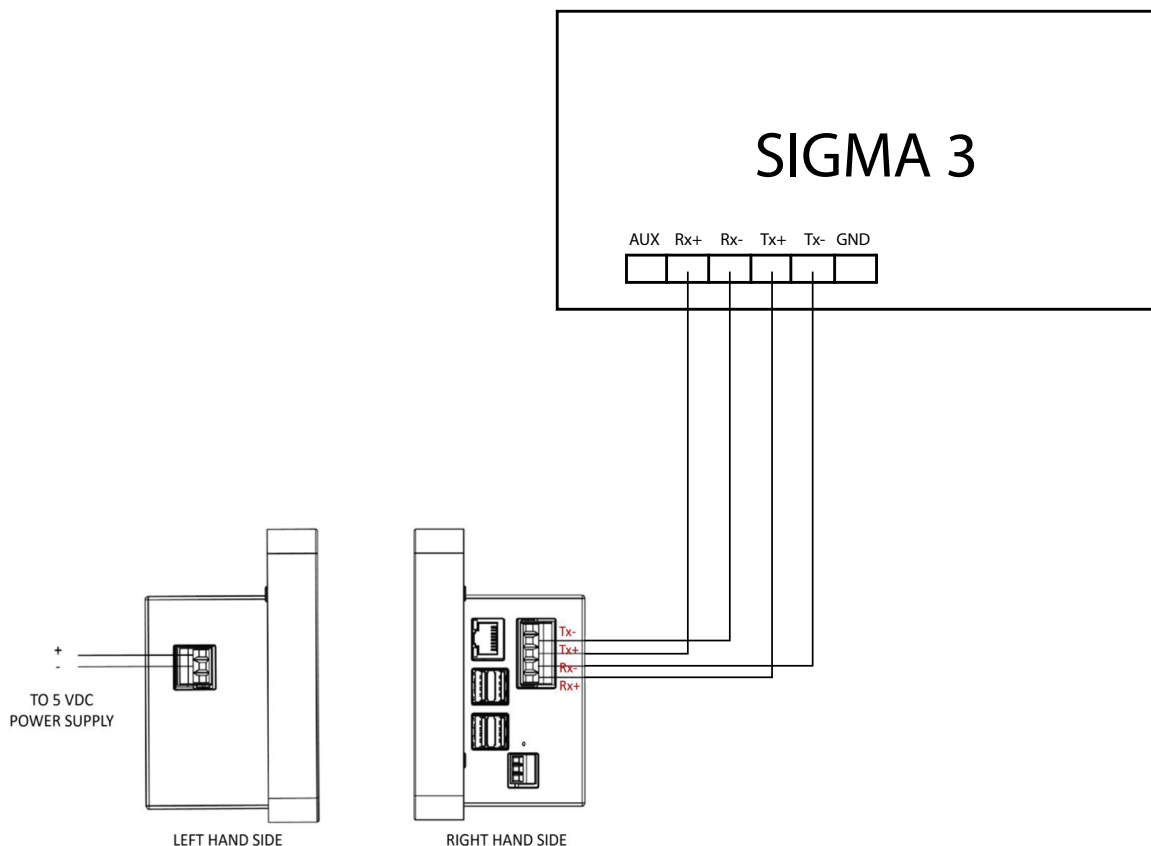

Figure 10.4: SIGMA 3 -TDM to SIGMA 3 connection
1. Ensure the SIGMA 3-TDM is connected to the SIGMA 3 as shown in Figure 10.4 below, or refer to the installation section C-EG44-EM.